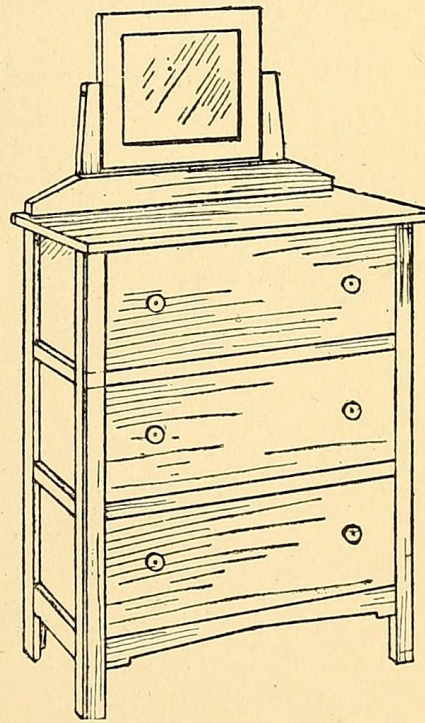

FIG. 199. — The Chiffonier.
**The Chiffonier** shown in Fig. 199. A dealer in shoes or dry goods will most likely have boxes of uniform size.
Set the boxes on top of one another as in Fig. 200, and then fasten them together at the four corners with strips 6 inches longer than the combined height of the boxes. Nail together the edges of the strips, first, then nail them to the boxes as shown in Fig. 199. The projecting ends of the strips will be the legs, so they must be of exactly
the same length or the chiffonier will not rest evenly upon the floor. Fit horizontal strips to the front and ends of the boxes, between the leg strips, to conceal the joints between the boxes (Fig. 199); cut these to the exact width of the front edges. Figure 201 is a view of part of the bottom of the chiffonier and shows the leg strips in place and how the lower portion of the chiffonier is finished off, by nailing a strip shaped similar to that shown in Fig. 202 across the front and a straight strip across the ends (see Fig. 199).
top box so there will be the same projection over the front of the box. The drawers may be made out of boxes cut down to the proper size, or if you do not care to bother with doing this, you may hinge *drop-leaves* to the boxes in the same way that the writing-desk drop-leaf is put on (Fig. 183). Cut spools in halves for knobs (Fig. 203), and screw two of the halves to the face of each drawer or drop-leaf as shown in Fig. 199.
A mirror 10 by 12 inches in size, set in a wooden frame, can be purchased for 50 or 60 cents. To fasten the frame to the chiffonier, cut two uprights 16 inches long, taper one edge of each as shown in Fig. 204, bore a  $\frac{1}{4}$ -inch hole near the upper end as shown, and drive a nail through each hole into the exact center of each side edge of the mirror frame (Fig. 204). Nail or screw the lower ends of the uprights to the back of the top box so the mirror will be exactly in the center of the chiffonier top and about 3 inches above it. Shape a piece similar to that in Fig. 205, and fasten it below the mirror to the mirror-frame supports as shown in Fig. 199, and your chiffonier will be ready for *finishing*.